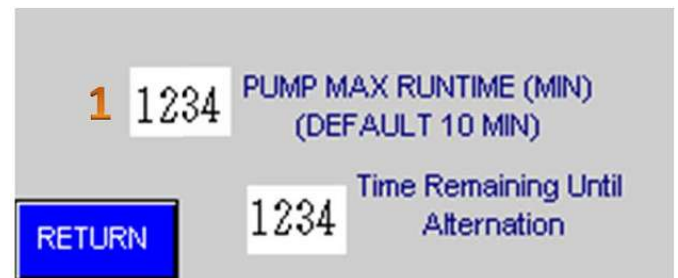

Figure 18. Max Run Time Adjustment Screen
3. **Pump Max Run Timer Menu.** Displays the max run time adjustment screen, Figure 18.